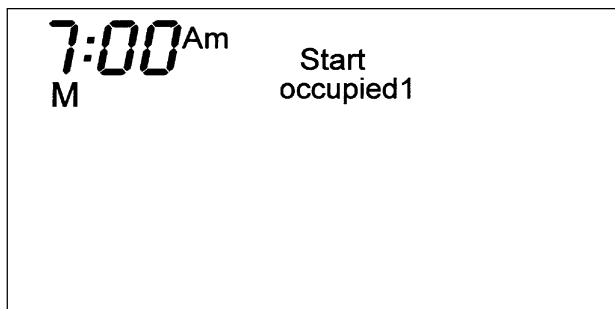

Fig. 7 — Start Time Display
- The Start Time for Occupied 1 will be displayed. Use the UP ARROW and DOWN ARROW buttons to raise or lower the time until the desired Start Time is shown. Press the Mode button to continue. See Fig. 7.